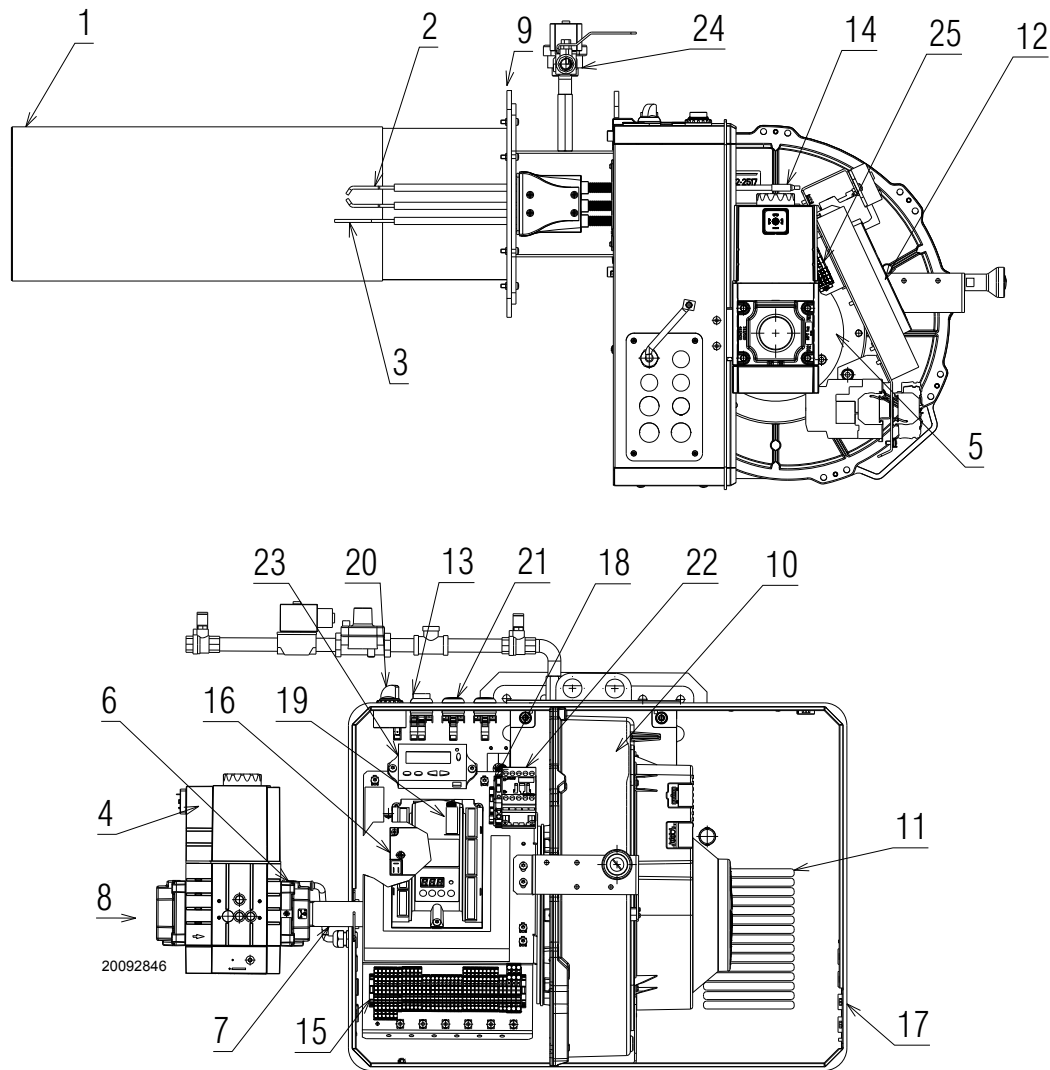

Fig. 9
- (1) Reference conditions: ambient temperature 68 °F (20°C) - Barometric pressure 394" WC - Altitude 329 ft.
(2) Pressure at test point 6)(Fig. 9 at page 11) with zero pressure in the combustion chamber and maximum burner output.
If the push-button 13)(Fig. 9) lights up, it indicates that the burner is in lockout. Press the push button to reset.